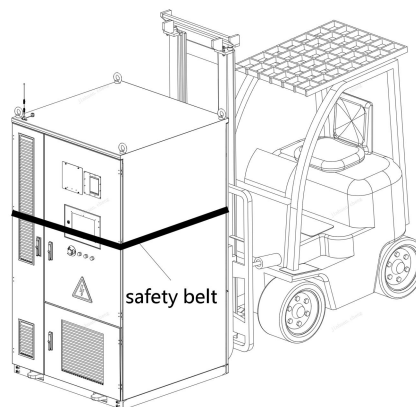

Figure 4-2 Schematic of slot location
- Specific forklift operation can be referred to as shown in Figure 4-2 below: